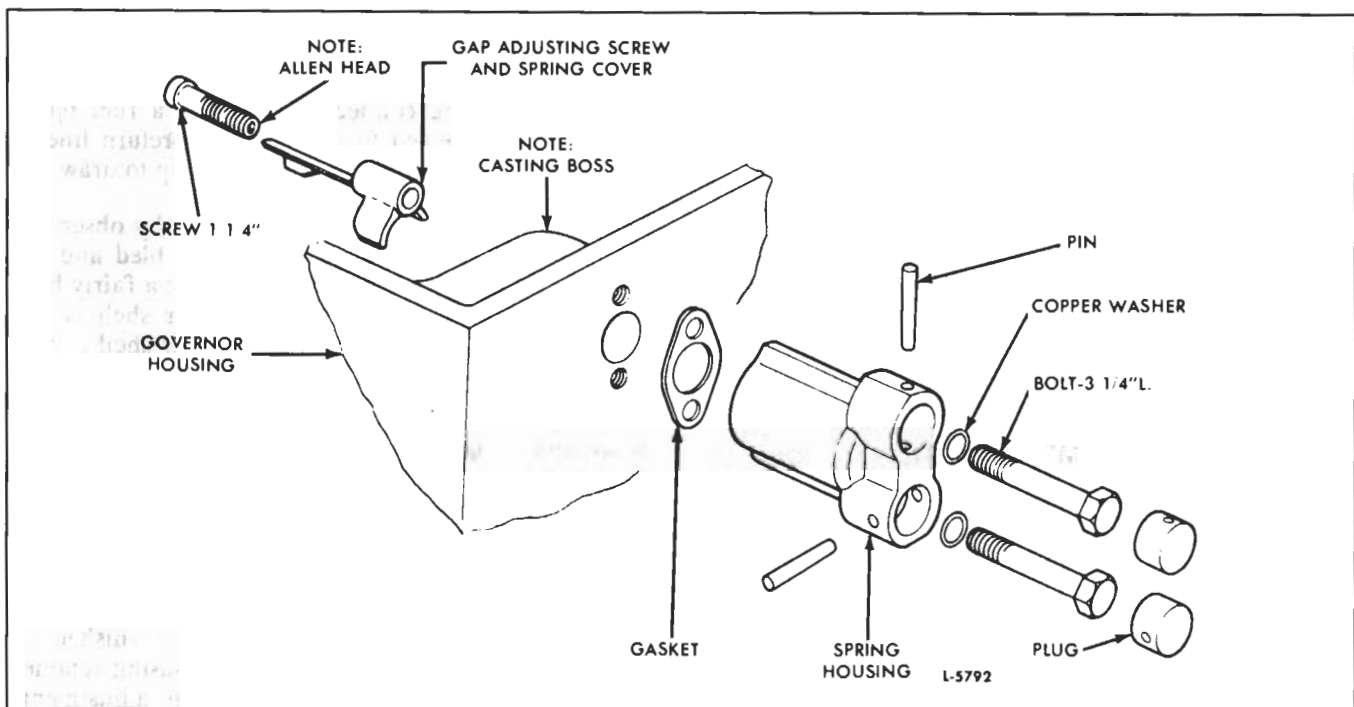

Fig. 6 - Tamper-Resistant Governor Components (Current)
- a. On the current tamper-resistant governor, insert the 1-1/4" Allen head retaining screw through the unthreaded clearance hole in the gap adjusting screw and spring cover (Fig. 6) and secure **the cover** to the inside of the governor housing. The retaining screw sets into a counterbore in the current cover. Turn the retaining screw into the housing **until the** cover is secure.
3. Refer to Fig. 6 and install the current gap adjusting screw and spring cover and the high and low-speed spring assemblies), replacing the original retainer with the new longer retainer in the governor housing as outlined under Step 3, Items a through f above.
With this procedure, two threaded inserts are installed in the governor housing, one from the inside and one from the outside. This will allow the new retaining screw to be installed on the inside of the governor housing and the new spring housing upper 3-1/4" bolt to be installed from the outside (Fig. 6).